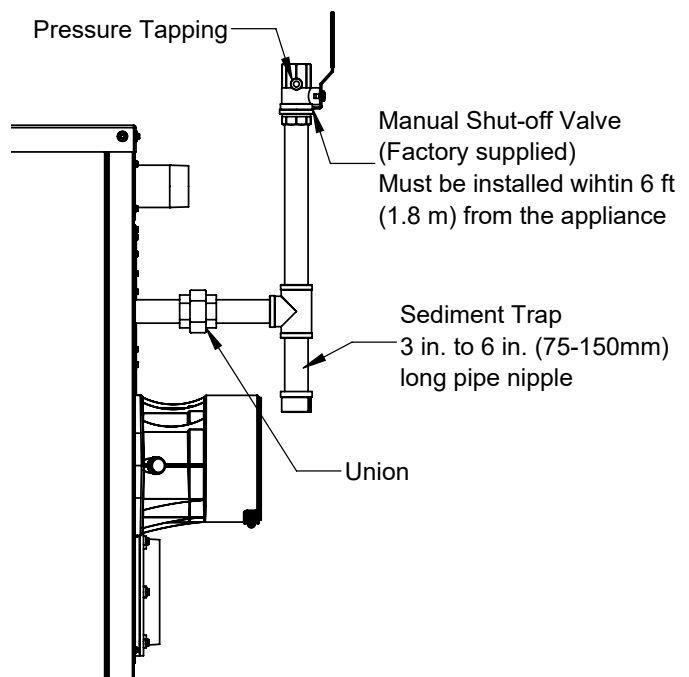

Figure 19: 400-1000L Gas Connection
1. A manual shutoff valve is shipped loose with the appliance and should be installed as shown in Figure 19 with a sediment trap.